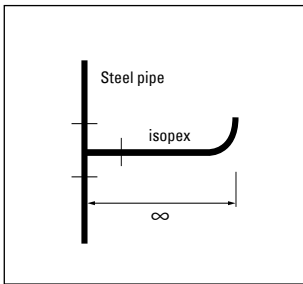

fig. 1
- If tee branches are used, the isopex pipe can be connected without any need for relief measures,  $L = \infty$ . See fig. 1.